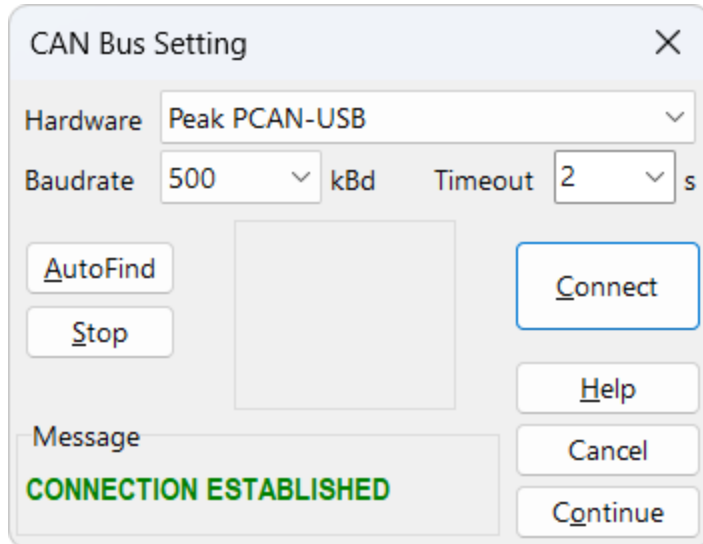

Fig. 14. CAN Bus Setting dialog.
If the adapter has been recognized but the connection with the Homer still fails, a dialog window titled **CAN Bus Setting** shows up (Fig. 14), displaying the error message **COMMUNICATION FAIL**. The cause may be that the Homer is busy with lengthy measurement and responds with a delay longer than the set timeout (in this case, repeatedly clicking the **Connect** button may help), or there is CAN baudrate discrepancy. This dialog window enables the user to either set CAN baudrate on the PC side manually or detect it automatically. Be sure the CAN cable is properly connected and terminated with a 120-ohm resistor at both end devices (see Electrical Connection – CAN Bus).
- From the **Hardware** drop-down list (Fig. 14), select the CAN Bus interface your PC is equipped with.